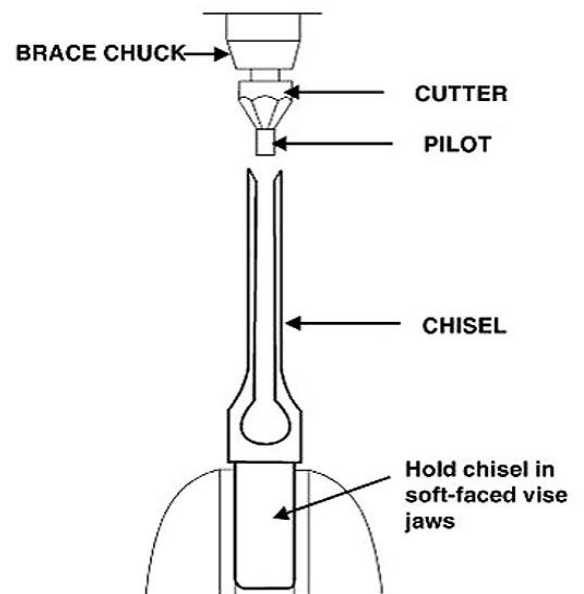

Fig 9
2. Sharpen the chisel with a mortise chisel cutter with the correct size pilot. (Pilot size will differ depending on the size of your chisel). Two or three turns of the cutter in a carpenter's brace chuck should be enough to sharpen the chisel, as shown in Fig. 9.